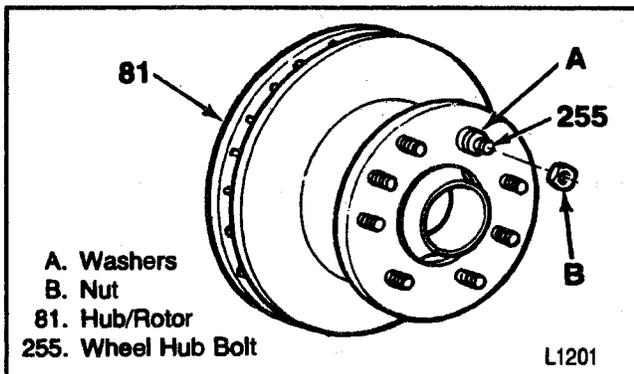

Figure 52—Installing the Hub Bolts
Remove or Disconnect (Figure 52)
2. Wheel hub bolts (255) with a press (Figure 52).
- Support the hub/rotor (81) using J 9746-02 and the press bars.
Install or Connect (Figure 52)
1. Wheel hub bolts (255) into the hub/rotor (81).
- Place four washers onto the bolt, then fasten a nut onto the bolt until the nut bottoms on the washers (Figure 52).
- Tighten the nut until the bolt fully seats into the hub/rotor (255).